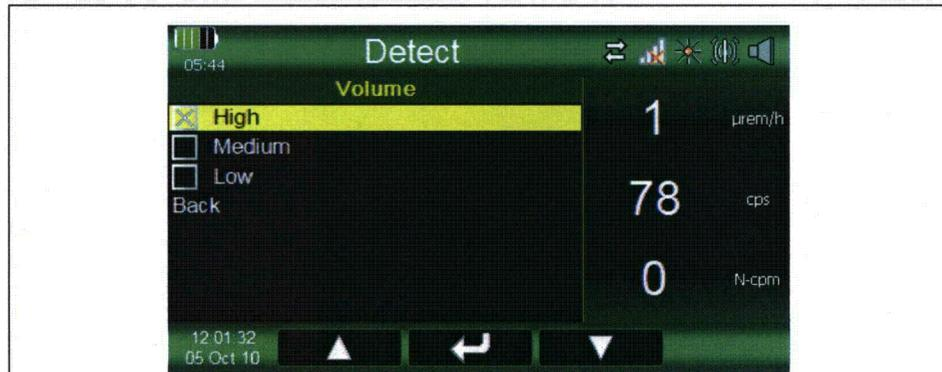

Figure 3-25 Volume Setting
4. Press the "Select" key. Refer to Figure 3-25.